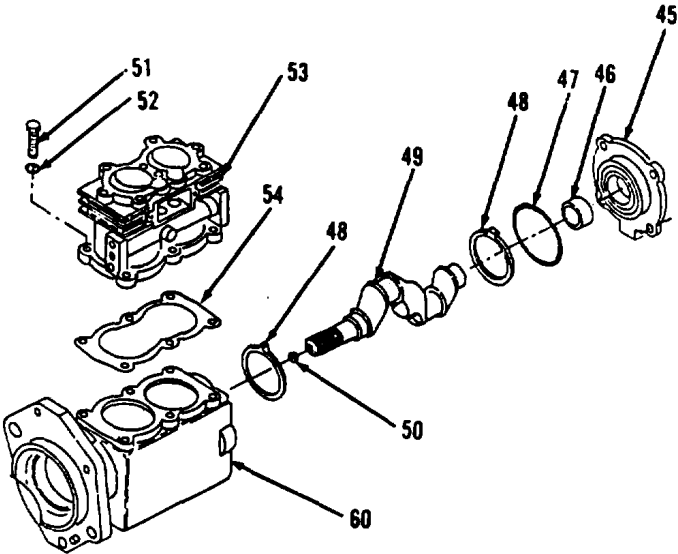

Figure 6-53.
- 1. Lubricate rear opening of crankcase (60) and bearing (46, Figure 6-53).
- 2. Install bearing (46) and new preformed packing (47) on cover (45).
- 3. Position new gasket (54) and block (53) on top of crankcase (60).
- 4. Install six lockwashers (52 and bolts (51).
- 5. Install plug (50) in end of crankshaft (49).
- 6. Position two new washers (48) and crankshaft (49) in crankcase (60).